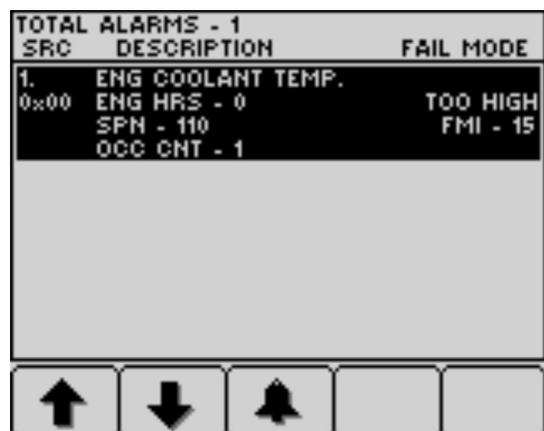

Figure 35
3. Press button 1 through 5 to view the active fault list (Figure 35).
4. Press button 1 through 5 to view the active fault list ; refer to Figure 35 in Engine Advisories Messages (page 33).